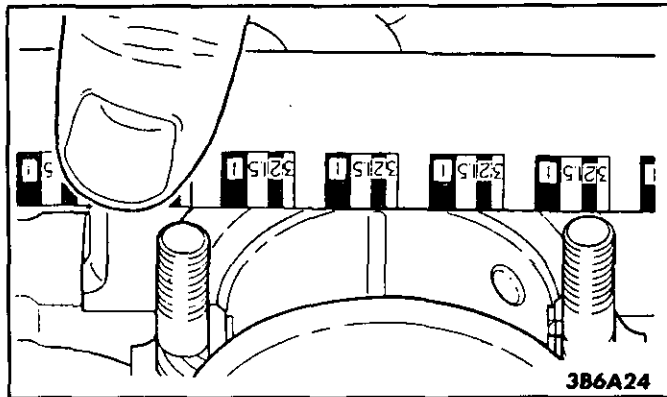

Figure 28 Measuring Bearing Clearance
- 6. Measure the flattened gaging plastic at its **widest point** with the scale printed on the gaging plastic package (Figure 28).